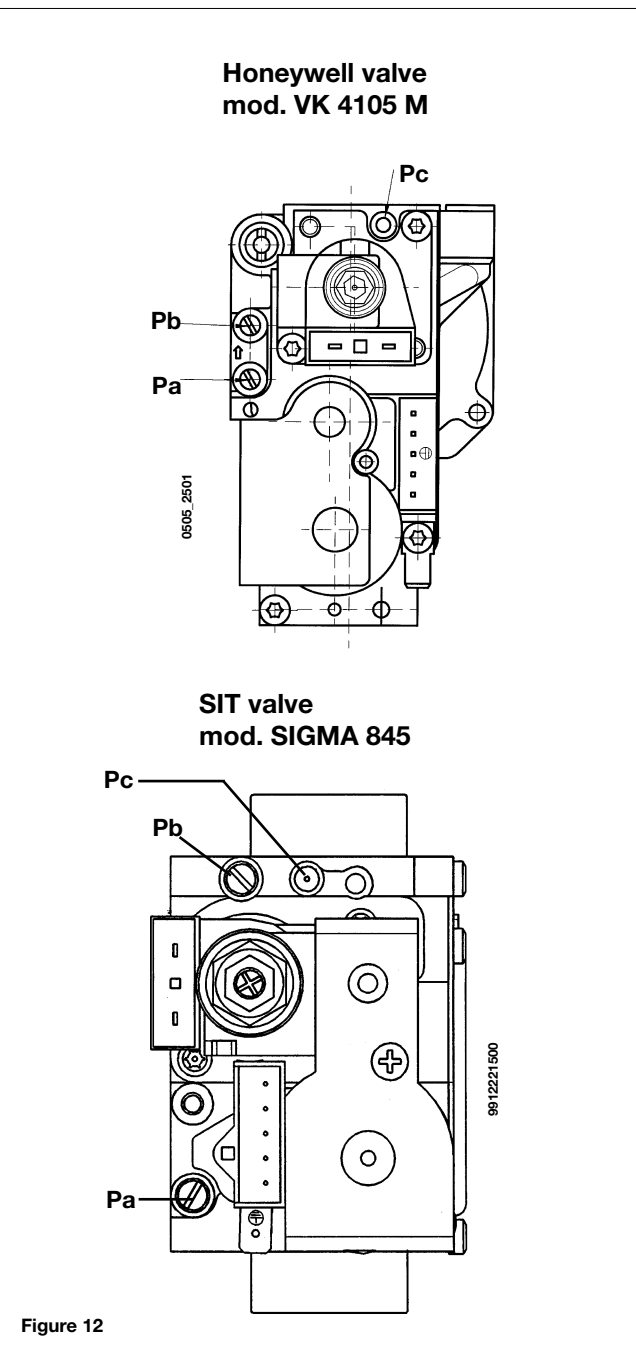

Figure 12
The procedure for calibrating the pressure regulator may vary according to the type of gas valve fitted (HONEYWELL or SIT; see figure 12).
- connect the positive pressure test point of a differential (possibly water-operated) manometer to the gas valve pressure test point (Pb) (Figure 12); connect, for sealed chamber models only, the negative pressure test point of the manometer to a "T" fitting in order to join the boiler adjusting outlet, the gas valve adjusting outlet (Pc) and the manometer. (The same measurement can be carried out by connecting the manometer to the pressure test point (Pb) after removing the sealed chamber front panel); If you measure the pressure of burners in a different way you may obtain an altered result in that the low pressure created in the sealed chamber by the fan would not be taken into account.
- open the gas tap and rotate knob (Figure 12) to set the boiler to the Winter setting (❄️);
- check that boiler feeding dynamic pressure, as measured at the inlet gas valve pressure test point (Pa) (Figure 12) is correct (37 mbar for LPG gas (G.31), 20 mbar for natural gas);